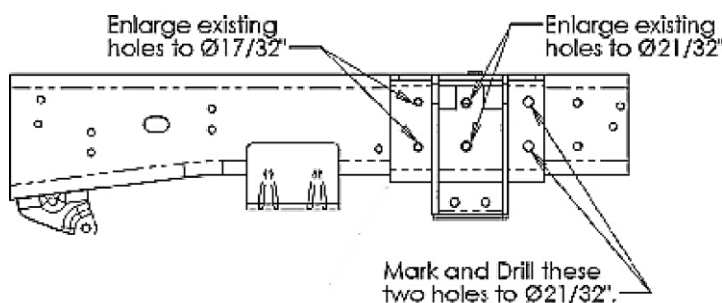

Figure 3. Driver Side Upper Strut Mount Frame Drilling.
17. Drill required holes into frame rails per Figure 3 and Figure 4.